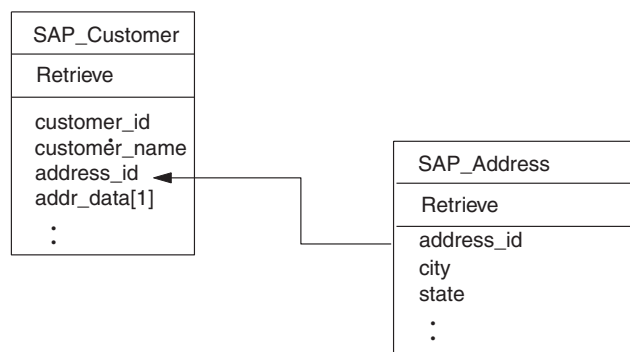

Figure 32. Example customer and address relationship
- In a single-cardinality relationship, the foreign key is determined by the primary key in the child referencing a **non- key** attribute in the parent as its foreign key. Each child has at least one simple attribute that references a non-primary key attribute in its parent as a foreign key. Figure 32 provides an example.
Figure 32 provides an example of a simple WebSphere business object developed to process customer objects in SAP. This example SAP_Customer has a single-cardinality relationship to the example address object that it contains (the `addr_data[1]` attribute has cardinality 1). The primary key attribute (`address_id`) in the child business object references a non-primary key (`address_id`) in the parent business object.